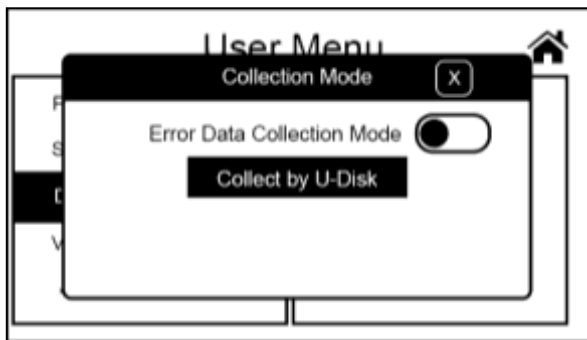
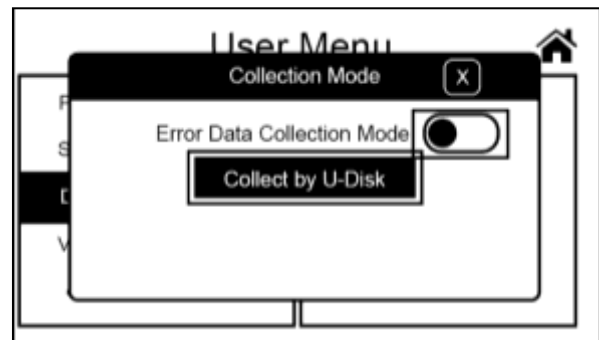

Figure 114
Figure 115
3) Touch “Error Data” to enter the Error Data collection interface, as shown in Figure 114. First turn on the Error Data Collection Mode button, then click “Collection by U-Disk”, machine will switch to the main interface automatically as shown in Figure 115.
5) You need to turn off the Error Data Collection Mode button after finish the collection of error data as shown in Figure 115.